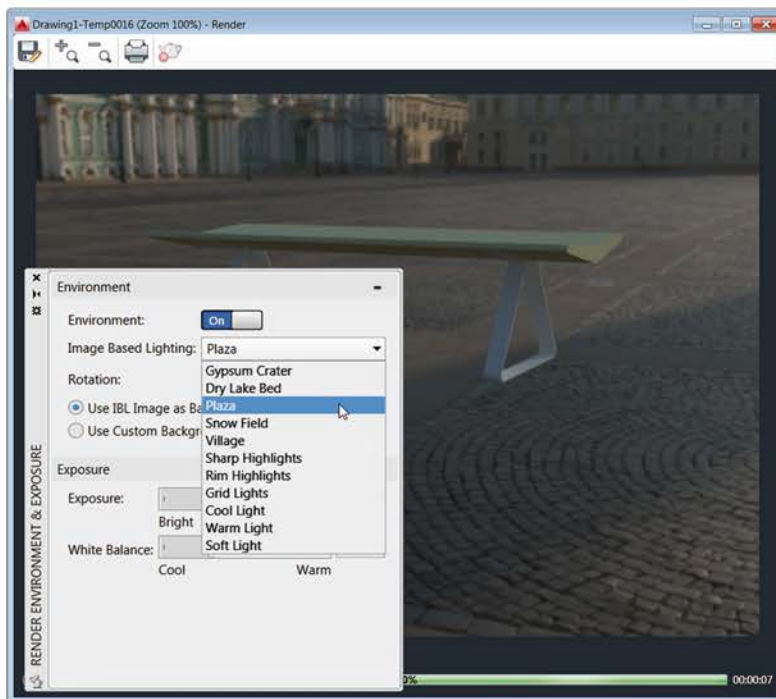

Fig. 16.19 Rendering with Image Based Lighting
7. The **Image Based Lighting** drop-down list holds a variety of lighting scenes to choose from. The top 5 also include a background picture. Select **Use IBL Image as Background** and try different scenes (Fig. 16.19). The scenes are only visible in the rendered image, not in the AutoCAD Viewport.